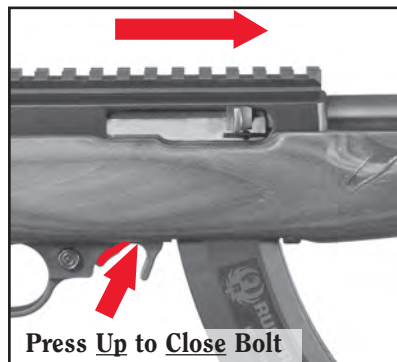

Figure 5b
**To release the bolt:** Retract the bolt handle to its extreme rearward position and then press in on the upper section of the bolt lock (see Figure 5b). Release the bolt and it will move fully forward.